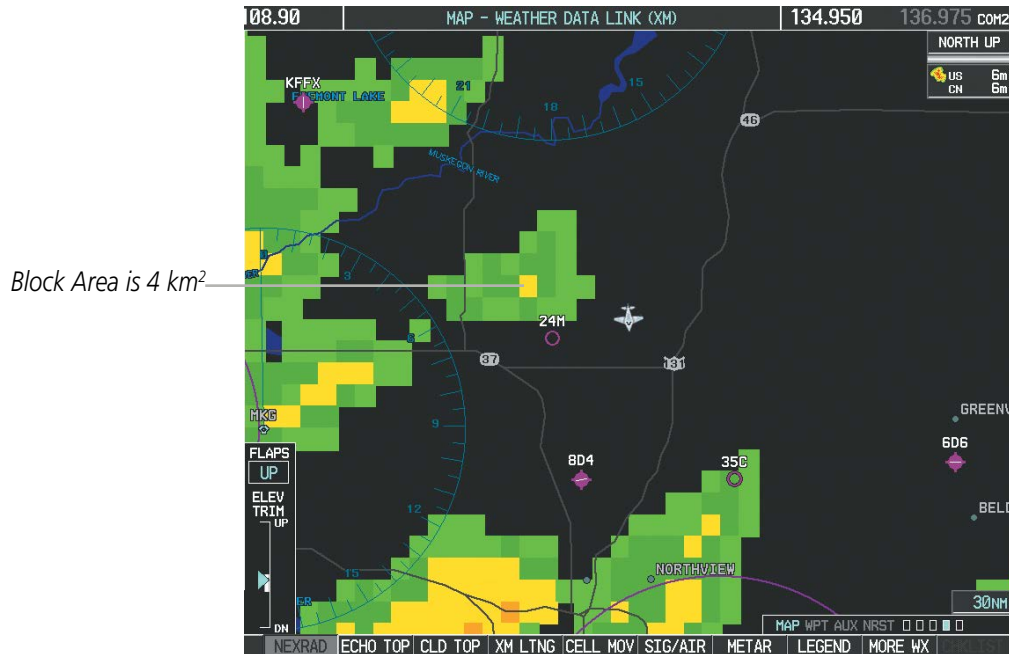

Figure 6-12 NEXRAD Weather Product - 30 NM Range
- When zoomed in to a range of 30 nm, each square block on the display represents an area of four square kilometers. The intensity level reflected by each square represents the *highest* level of NEXRAD data sampled within the area (Figure 6-12).